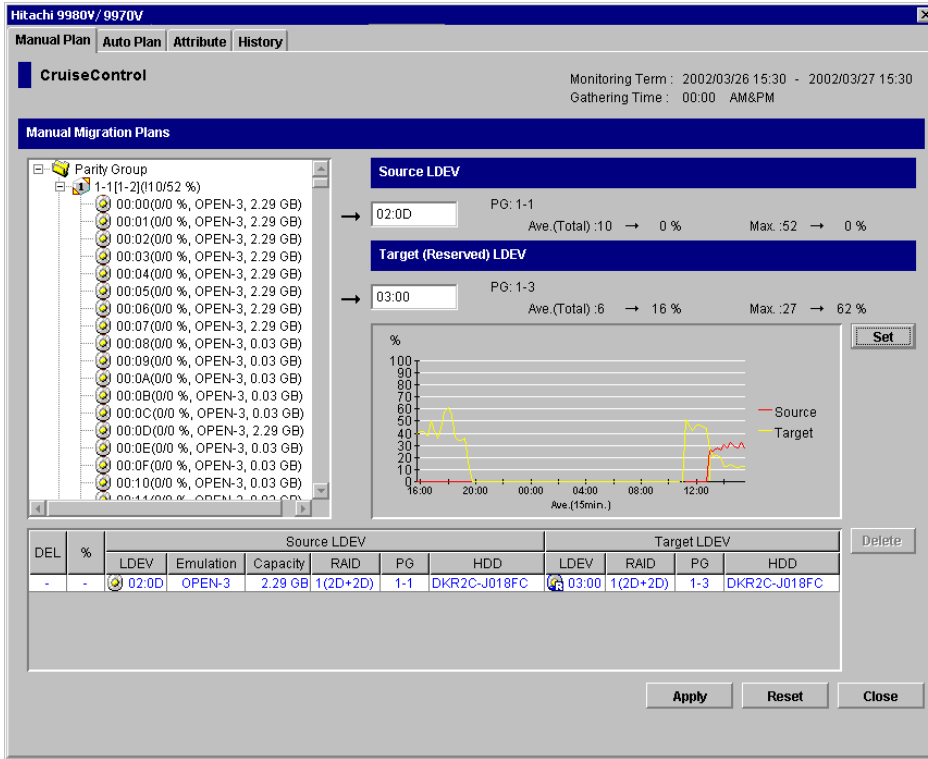

Figure 5.3 The Manual Tab
2. From the Hitachi **CruiseControl** panel, click the **Manual Plan** tab (see Figure 5.3).